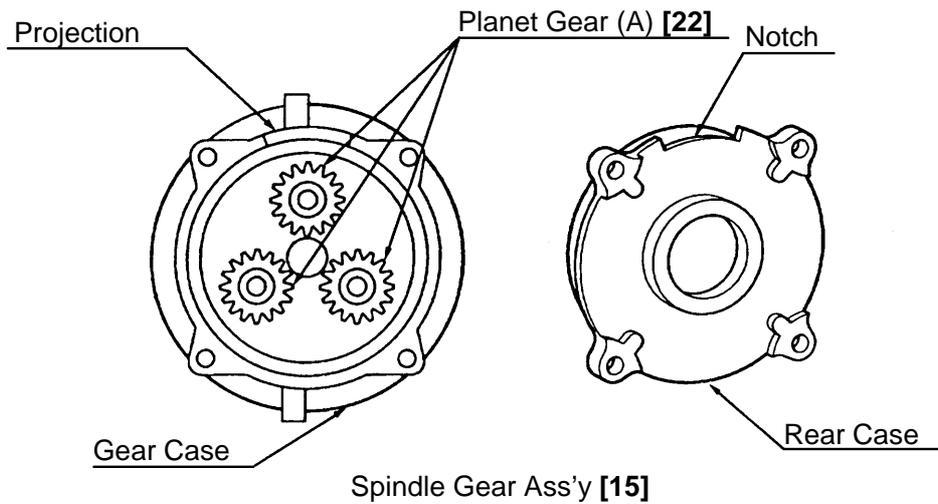

Fig. 9
(5) Removing the Planet Gear (A) Set [22].
The three Planet Gears (A) [22] can be taken out by removing the rear case from the Spindle Gear Ass'y [15]. (See Fig.9.)
(2) Put the Spindle Gear Ass'y [15] and the parts assembled in step 1 together.
- (a) Install three Planet Gears (A) [22] into the Spindle Gear Ass'y [15] and mount them in the rear of the case. Note that the projection at the gear case of the Spindle Gear Ass'y [15] should be aligned with the notch in the rear case. (See Fig.9.)